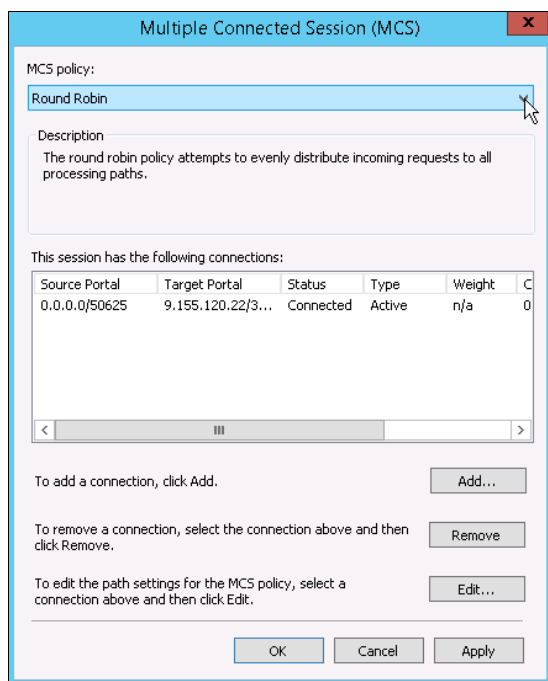

Figure 3-22 Connected sessions
12.To see further details or change the load balancing policy, click **MCS** (Multiple Connected Session), as shown in Figure 3-22.